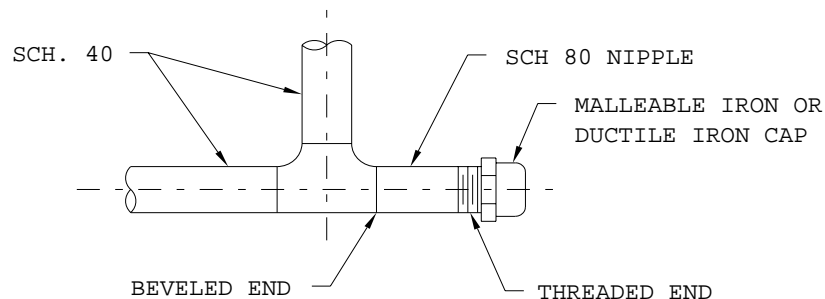

Figure 4-8
C. The nipples for dirt traps in headers involving schedule 40 pipe with welded joints shall be schedule 80, threaded one end to receive threaded cap as shown in figure 4-8.